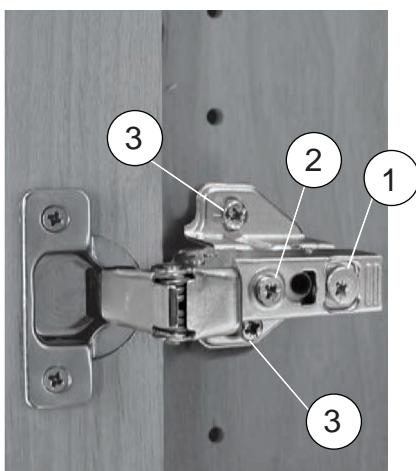

Fig. 3
3. The door may need to be adjusted so that all the spaces between the doors and unit sides are equal. To make those adjustments, follow the instructions in Figure 3.